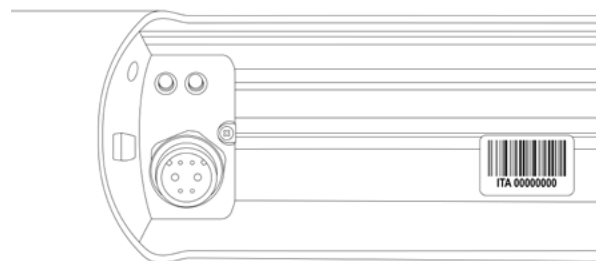

FIG. 17
- In order to make this guarantee effective, you must fill in the online form which can be accessed via QR CODE or by connecting directly to the website warranty.mbbike.it no later than 15 days from the date of purchase of the bicycle. You will need the serial number and photo proof of purchase from the authorized reseller. The serial number is printed on the label located in the battery slide and on the battery itself (Figure 17);